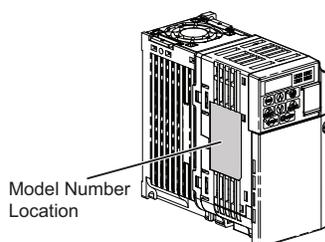

Figure 4 Model Number Location: IP00/IP20 Open Chassis and IP20/NEMA Type 1 Enclosure
1. Locate the drive model number using Figure 4 and Figure 5. Record the model number for use in STEP 2.